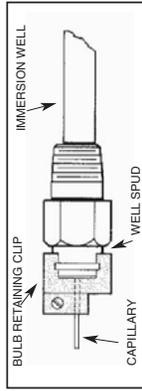

FIG. 8-IMMERSION WELL ASSEMBLY
- 4 Fit bulb retaining clamp over immersion well flange and capillary tubing, and tighten screw, as shown in Fig. 8.